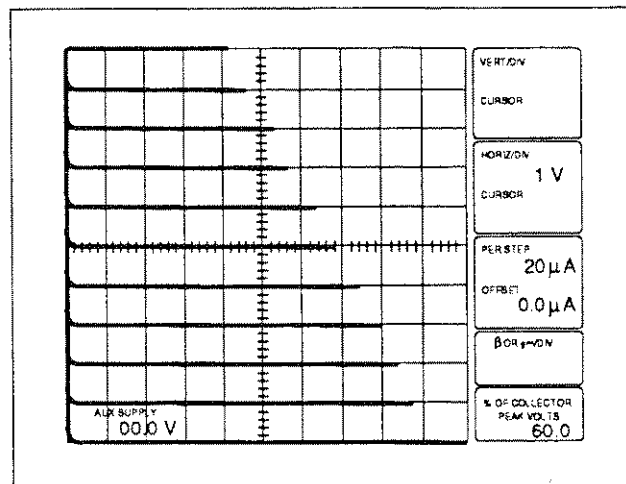

Figure 3-10. IB vs. VCE.
20. Set the VERTICAL control counterclockwise to STEP GEN and the HORIZONTAL control clockwise to 1 V COLLECTOR. Note the display of the base current (one step per vertical division) vs the collector-emitter voltage (see Figure 3-10).